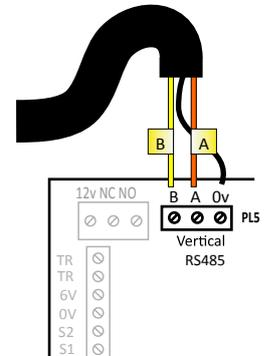

Fig 6
1. The Apex Programming cable has three wires, 'B', 'A' and 'Gnd'. Connect these wires on to the vertical data bus of the Apex system (PL5 on Apex Main Boards - ENT0684 [Fig. 6], PL12 on Digital Expansion Boards - ENT0682).